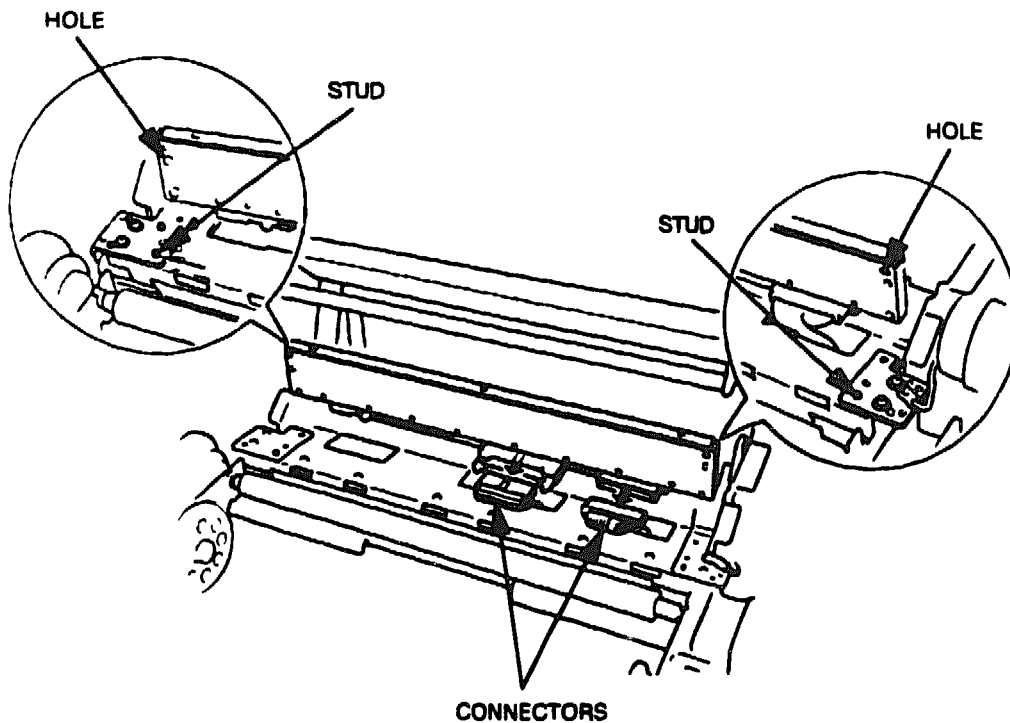

Figure 6-7 Thermal Head Removal
4. Unplug the two thermal head connectors. Lift the thermal head out of the printer (see Figure 6-7).